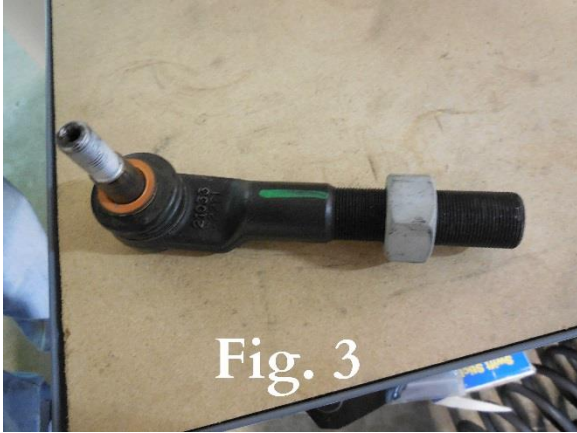

Fig. 4
- aa) Remove factory sway bar to frame bolts. Be cautious as sway bar is heavy. Install new sway bar drop brackets into place. Be sure to put them the correct way. The closed side should face the outside of the vehicle. Using factory hardware tighten drop bracket to frame. Using 3/8 bolts, washers, and lock nuts, install sway bar onto drop brackets and tighten to proper torque. **See Fig. 4**